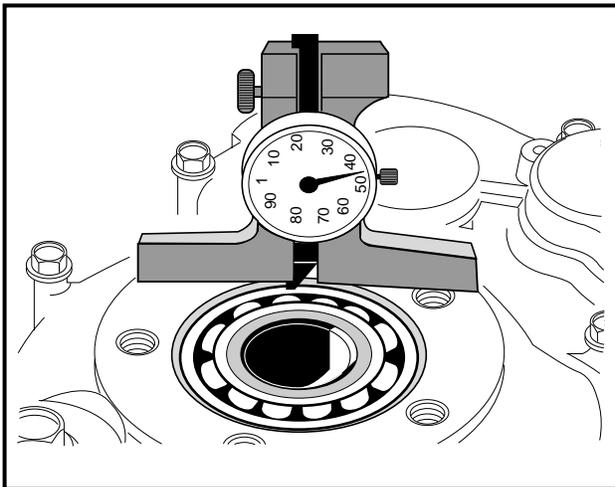

Figure 16-21 Depth Gauge
2. Using a depth gauge, measure the distance from the gasket seal surface of the axle tube (gasket must be removed) to the outer race of the bearing (14) on the differential case assembly (32) (**Figure 16-3, Page 16-3**) See also **Figure 16-21, Page 16-13**.